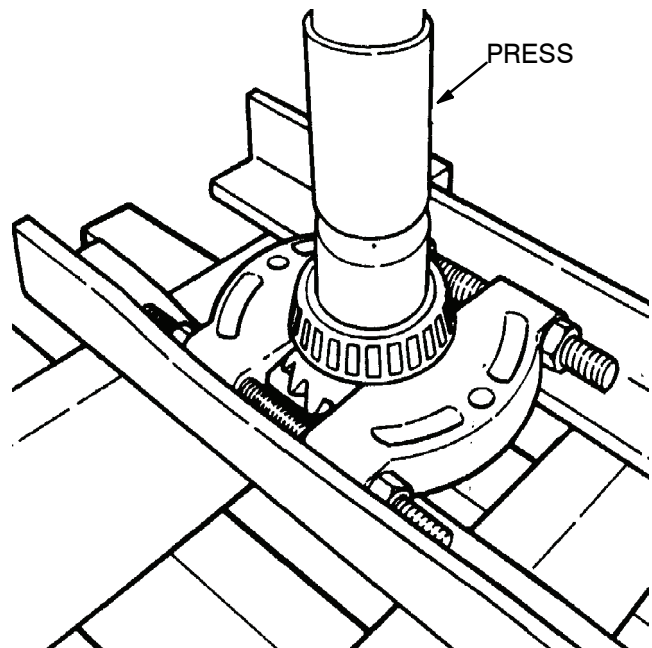

Figure 17. Rear Side Gear Bearing Cone Removal.
- (10) If necessary, use a press, a sleeve and a bearing puller to remove the cone from the rear side gear. Figure 17.
- (11) If necessary, use a brass drift and a hammer to remove the cup of the rear side gear cone from the differential side of the carrier.